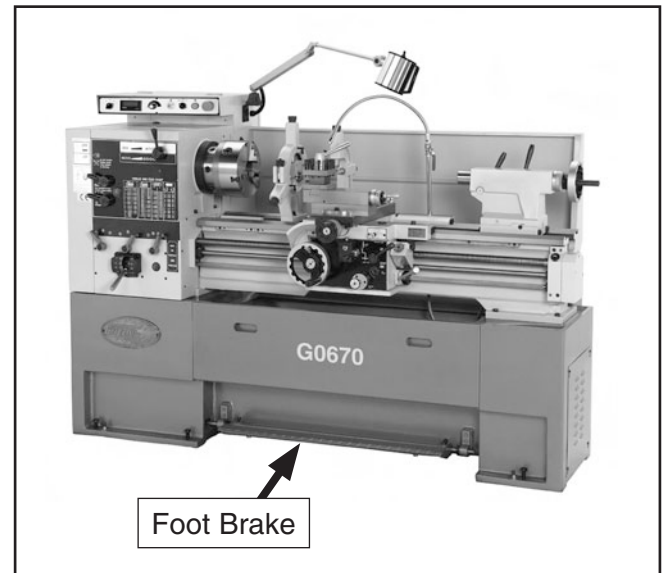

Figure 71. Foot brake.
4. To stop a free wheeling chuck and cut power to the motor, press down on the foot brake (**Figure 71**).